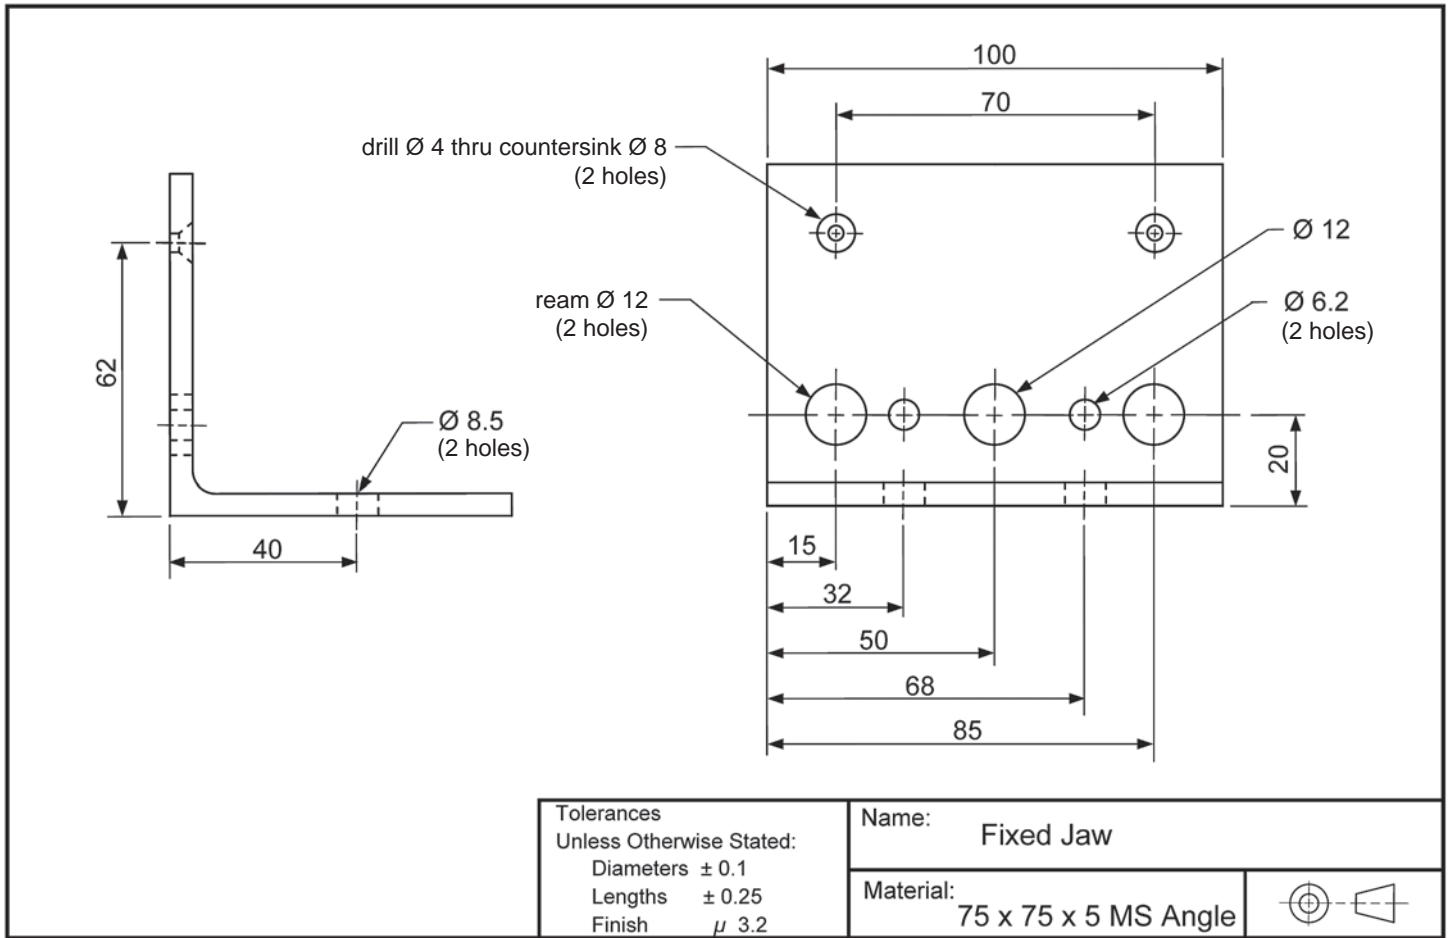

Figure 2
Figure 2 shows a detailed drawing of the fixed jaw. Question 2 relates to the manufacture of the fixed jaw.
- a. Use an arrow to show a datum on the drawing in Figure 2.